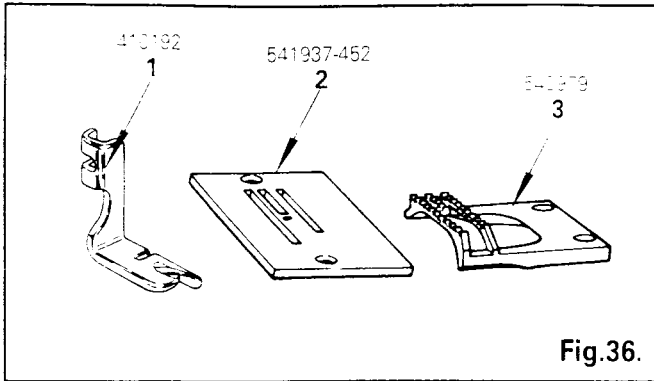

Fig. 36.
Hemmer Foot (1), Straight Stitch Throat Plate (2) and Feed Dog (3) as shown in Fig. 36 are used for hem sewing.